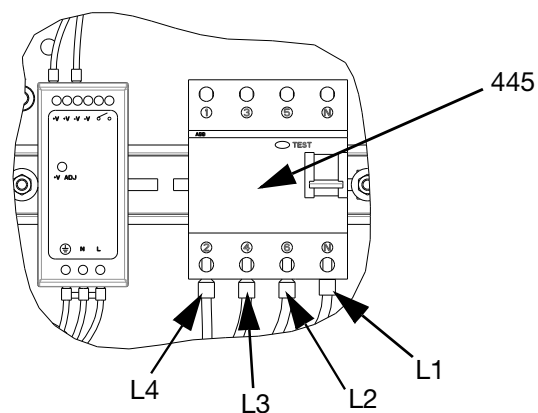

FIG. 18
- Connect the L1, L2, L3, and L4 wires from the Expansion Module to circuit breaker (445) as shown in FIG. 18.
- Connect the ground wires to the ground terminal (455) by loosening the nut (437) on the wiring harness.